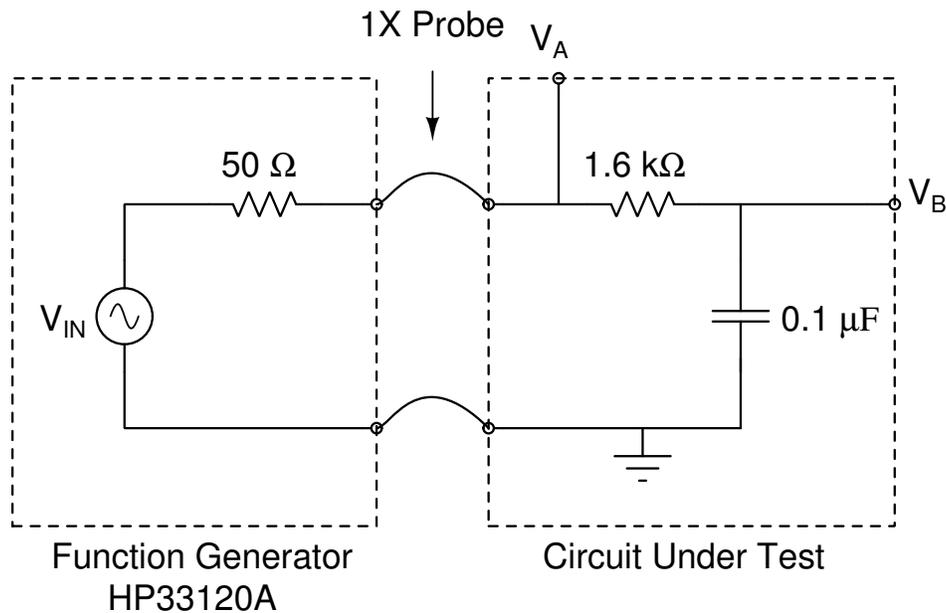

Figure 1: Circuit to be analyzed in Lab #2.
In this lab you will investigate the magnitude and phase shift that occurs in an RC circuit excited with a sinusoidal signal, and you will measure the voltage that results from a transient input signal. The circuit you should build is shown below in Figure 1. (Note: even though the 1X probes are not explicitly shown in the figure, the probe capacitance should be included when analyzing the circuit.)
2. For the RC circuit shown in Figure 1:
3. For the circuit above, use Micro-cap to simulate the node voltages V_A and V_B and the phase shift (PS) in degrees between the two nodes. Set the AC input voltage to 5 V. Complete the table below:
- Measure the values for each component needed in the circuit shown in Figure 1 using the LCR meter and a DVM. When measuring the capacitance of the $0.1\mu\text{F}$ capacitor, measure both C and D at frequencies of 100 Hz, 1 kHz, and 10 kHz. Calculate the ESR of the capacitor. Can the ESR be ignored? Explain your reasoning in your notebook.
- Build the circuit shown in Figure 1. Set the V_{IN} to a 5V peak sine wave at a frequency of 100 Hz.